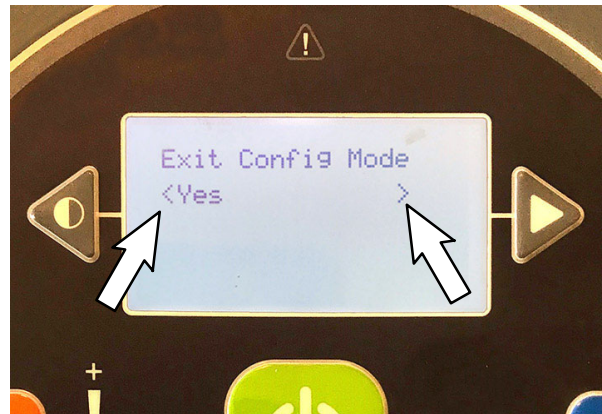

FIG. 40
13. The Exit Config Mode menu should open. <Yes > should appear under the top line of text. Press the main scrub brush pressure button again to exit the Configuration Mode. (Fig. 40)